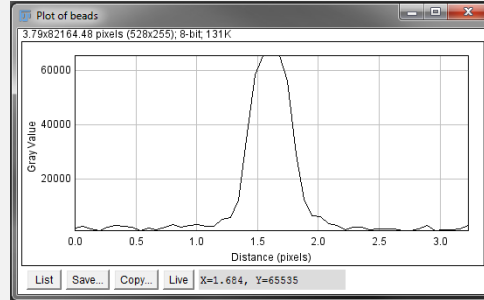

Figure 1.8: Intensity profile of the line.
2. In the next step, we will look at the intensity (brightness) distribution along this line. For this, do [Analyze > Plot Profile] (Fig. 1.8). You should observe that the gray value (y-axis) ranges from 0 to 65535 and that the curve looks cut at the upper end - this means that we